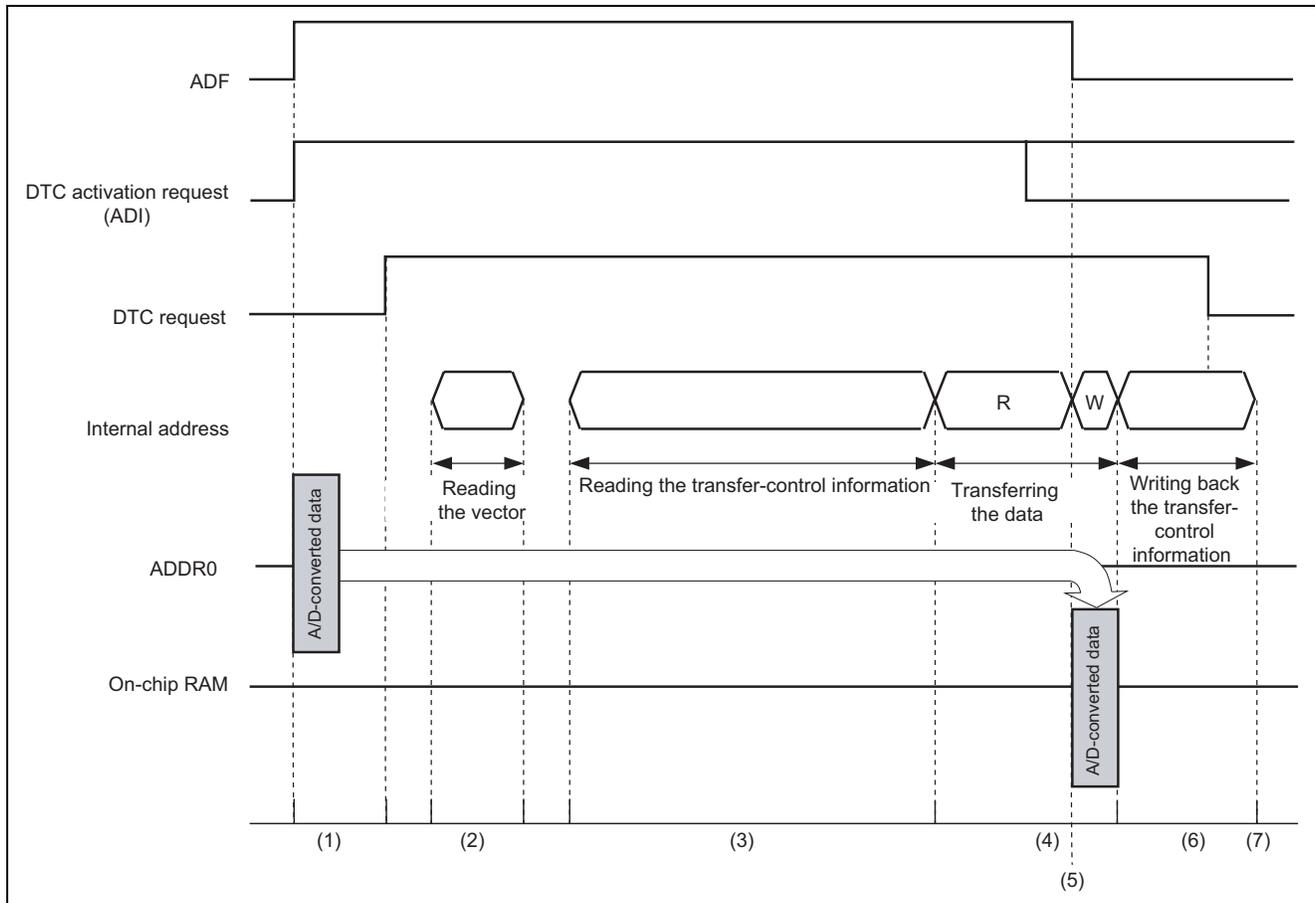

Figure 5 Detailed Timing Chart of DTC Transfer
A more detailed timing diagram of one DTC transfer operations is given as figure 5.
In DTC transfer, DTC activation sources (in this case, ADI interrupt request) generate DTC requests. Mastership of the internal bus is secured and the DTC is activated (figure 5 (1)). The address where the control information for the transfer starts is read from the vector table of ADI activation sources (figure 5 (2)) that has been set up for this example. The information is then read, starting at the given address (figure 5 (3)). After that, the data is transferred from the source address (ADDR0) to the destination address (on-chip RAM) (figure 5 (4)). The ADF bit is automatically cleared in response to reading of the ADDR (figure 5 (5)).
Finally, the destination address for the transfer is incremented, and the control information for the transfer is written back (figure 5 (6)). The DTC releases the bus after the writeback operation (figure 5 (7)).